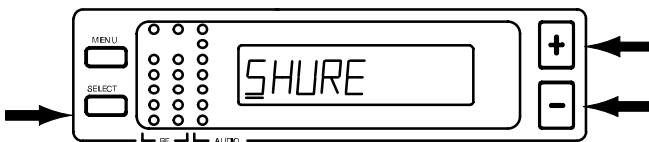

FIGURE 23
- Press the SELECT button. An underline appears under the first character of the name. The factory pre-set Name display (SHURE) is shown in Figure 23.